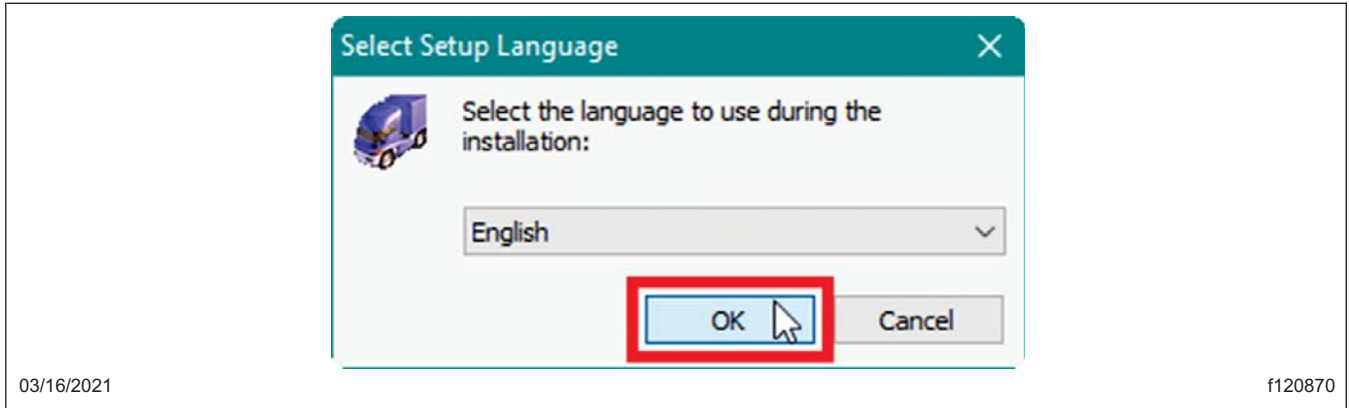

Fig. 10, Language Selection
7.4 When asked to 'Select Setup Language,' choose English and select 'OK.' See Fig. 10.